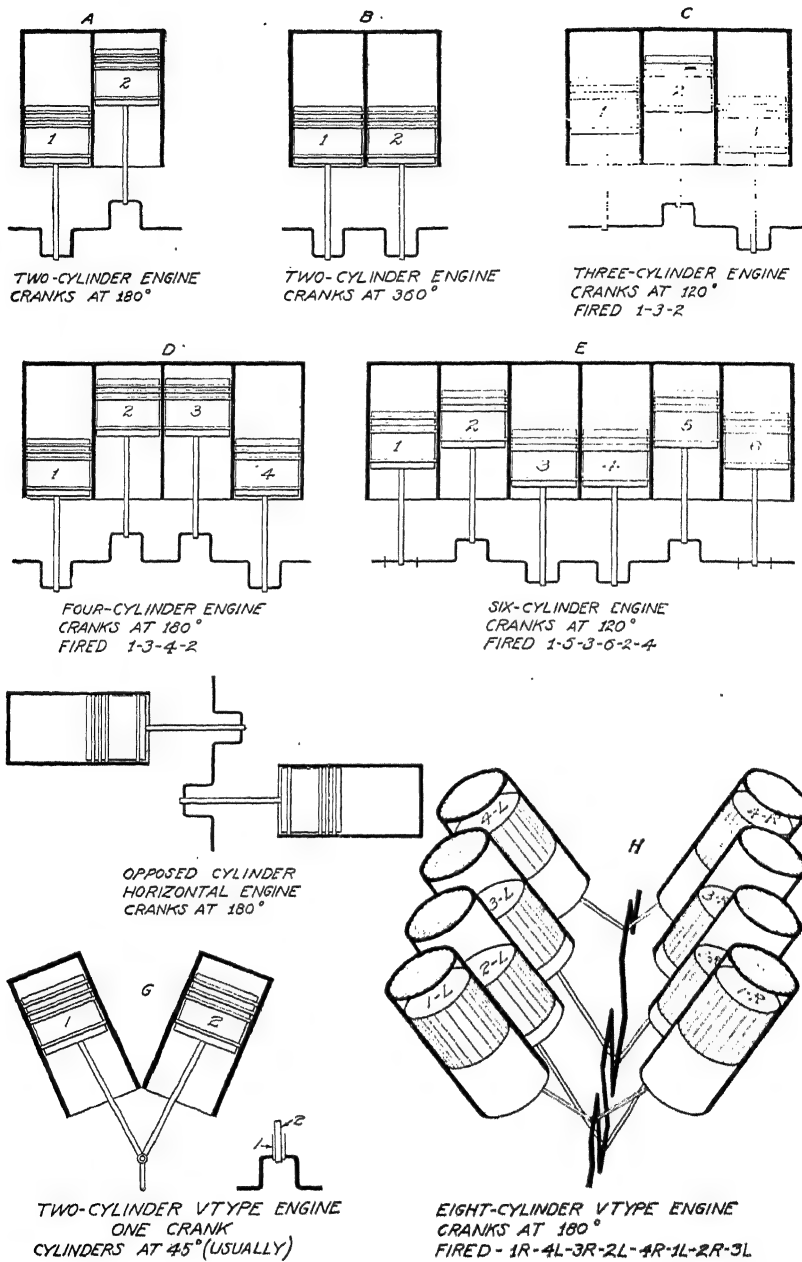

Fig. 14. Crank and Firing Arrangements for Multicylinder Four-Cycle Engines
By referring to Fig. 14 it will be found that the cranks are laid out in degrees in regard to their relation with each other. The division of the circle in degrees is used here. A crankshaft layout for a four-cylinder engine is shown at *D* and the cranks are set at 180 degrees. It will be noticed that cranks 1 and 4 are directly opposite cranks 2 and 3 and therefore are on opposite sides of the circle, or 180 degrees apart. At *E* the cranks are set at 120 degrees and are so arranged that they are one-third of the total circle distance apart. The diagram shows a six-cylinder shaft and cranks 1 and 6 move together, 2 and 5 together, and 3 and 4. A four-cylinder engine shaft can be used in an eight-cylinder engine and a six-cylinder shaft can be used in a twelve-cylinder engine. There is a definite distance that the crankshaft travels between explosions and consequently there are a certain number of power strokes given for every revolution of the crankshaft.
With the cranks set at  $360^\circ$ , *B*, Fig. 14, we get a power stroke at each revolution. This arrangement, however, requires careful balancing to counteract the vibration which results from all parts moving in the same direction at the same time.
**Four=Cylinder Engine.** In the four-cylinder engine of the four-cycle type, we have two power strokes for each revolution of the crankshaft or flywheel. In order to secure smooth working, these power strokes should occur exactly one-half revolution apart. From *D*, Fig. 14, it will be seen that the four-cylinder crankshaft has two pairs of cranks just about one-half revolution apart. Pistons 1 and 4 move up, while pistons 2 and 3 move down, or *vice versa*.
**Six=Cylinder Engine.** This is one of the most popular engines ever designed. It appeals to the motor-car user in that it offers a fairly even flow of power. It appeals to the mechanic in that it is not so complicated. The cost of maintenance is but slightly more than that of a four. The crankshaft, as will be noted at *E*, Fig. 14, is so arranged as to have two cranks or throws positioned at each of the 120-degree points about the circle. The six is in reality two threes, end to end, just as the straight eight is two fours, end to end. There are a number of firing orders possible for the six. One of the most popular is indicated in Fig. 14. The reader understands that the firing order is determined by the designing engineers and may not be changed by the service man. The service man is interested only in knowing the theory of design so that he may determine the firing order provided by the manufacturer.